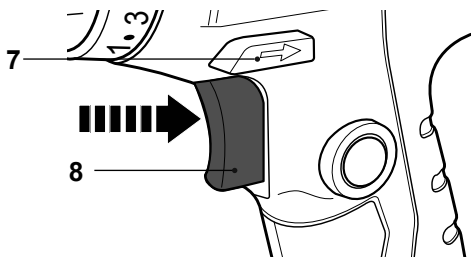

Fig. 9
1. Switch the product on by pressing the on/off switch (8) (Fig. 9).
2. Switch the product off by releasing the on/off switch (8).